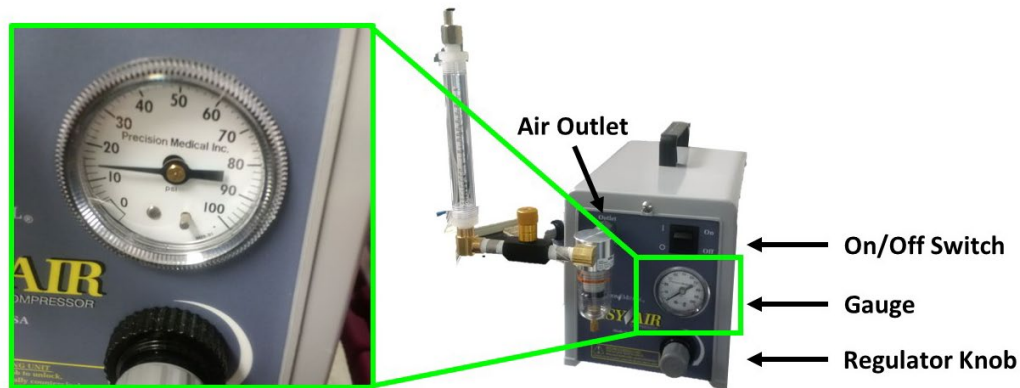

Figure 5. Adjusting the pressure gauge of the air compressor to begin flow of air to the bubble humidifier.
4. Turn on the air compressor using the On/Off switch and adjust the pressure gauge to 14 PSI (**Figure 5**).